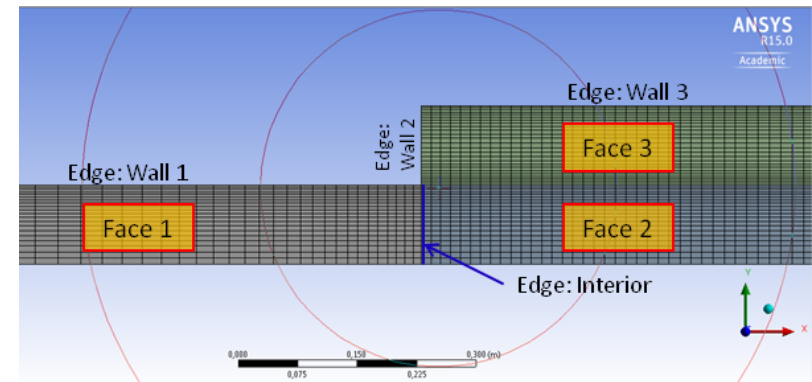

Figure 8: Zoom of the mesh near the singular expansion. Note that the mesh is refined near the walls and the salient corner. This mesh has 14300 cells.
The flaws of the “automatic” mesh of Fig. 7 is that the user does not control the mesh resolution in the vicinity of strong flow gradients, which are located in the boundary layers along solid walls and in the recirculation zone (see Fig. 1). Ansys Meshing allows various strategies for refining locally the mesh in selected areas of the computational domain. In this lab exercise, we will use the “bottom up” strategy to create a better quality mesh: first introduce a 1D meshing of the edges of the domain, then use a quad method to mesh the computational domain (which is called a Face, since it is 2D). The resulting mesh, shown in Fig. 8, is generated by the following steps:
Table 1: Sizing details for the edges shown in Fig. 8.
3) Preview the mesh by clicking on **Mesh** in the **Tree Outline**. If the mesh density is not similar to Fig. 8 or the grid lines are not parallel to the axes, you certainly made a mistake in some edge sizing details. In this case, delete the mesh⁷, review your edge sizings and generate again the mesh of Face 1.